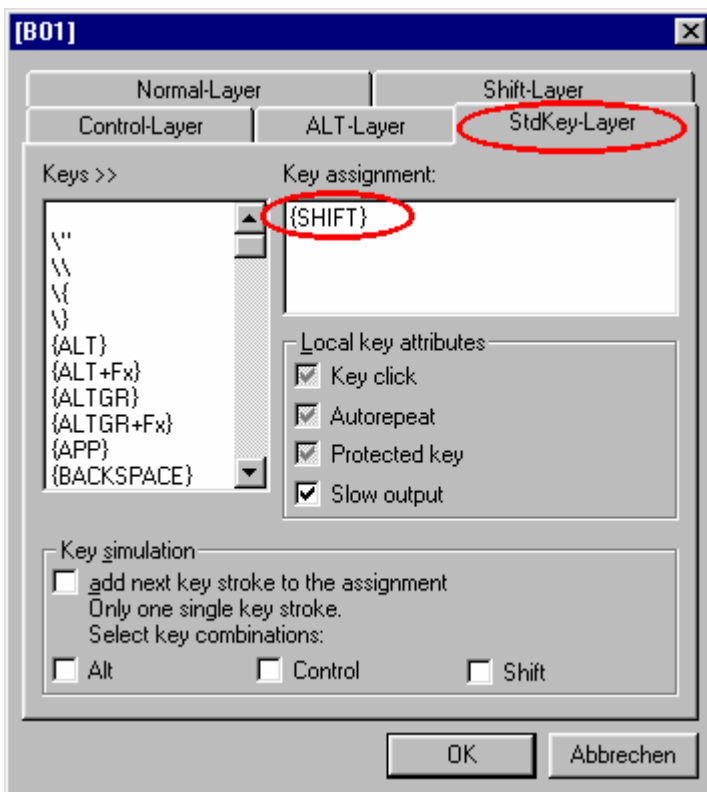

Figure 6
- Enter the key assignment as shown in Figure 6.